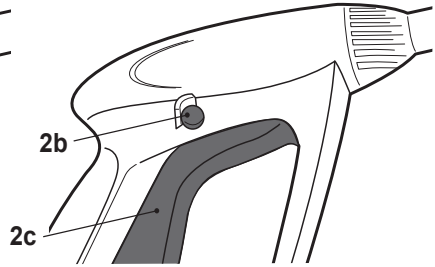

Fig. 16, unlocked position, the trigger is enabled
- > When the trigger lock (2b) is in the unlocked position, the spray gun trigger (2c) will be enabled and ready for use (Fig. 16).